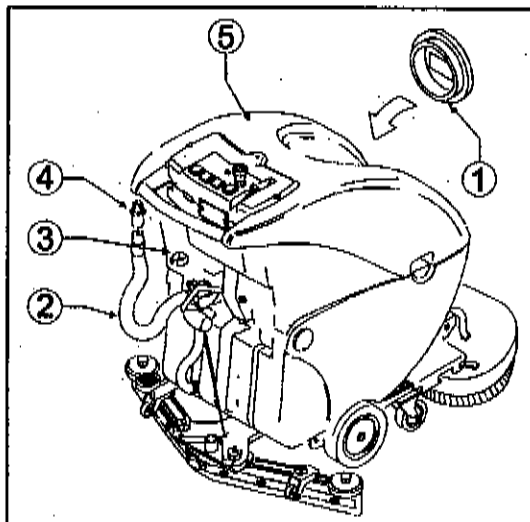

Fig. 10
- take off the tank cap (fig. 10, ref. 1) from the recovery tank (fig. 10, ref. 5);
- detach the drain hose (fig. 10, ref. 2) from its seat, holding it in correspondence with the fixing spring (fig. 10, ref. 3) and pull it horizontally;
- keeping the hose end as much high as possible, take off the drain cock (fig. 10, ref. 4) from the hose by unscrewing it;
- put back the cap (fig. 10, ref. 1) on the recovery tank, making sure that it is perfectly closed;
- close the drain hose (fig. 10, ref. 2) with the cock (fig. 10, ref. 4) screw-tightening it; check that it is perfectly closed and refit the hose in its housing.